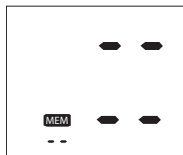

Fig. 3
2. Press and hold down the **MEM** button until four horizontal lines flash, Fig. 3. This indicates that all measurements have been erased.